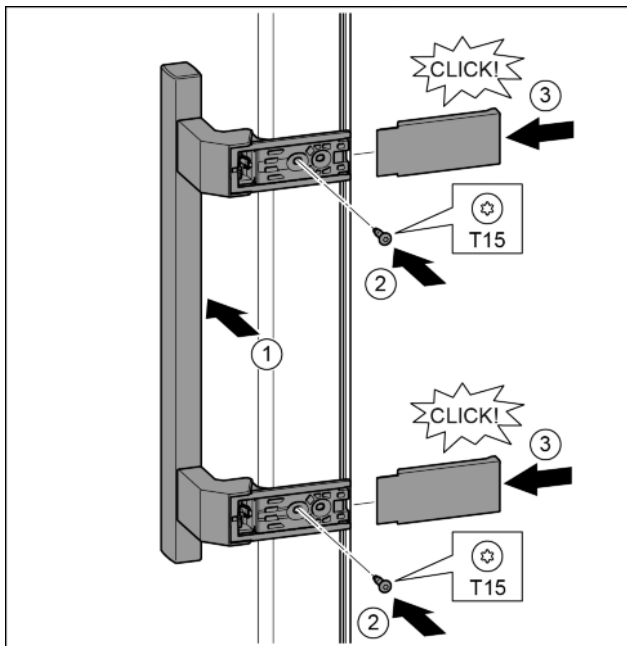

Fig. 33
- Position the handle on the other side. Fig. 33 (1)
- Tighten the screws with the T15 screwdriver. Fig. 33 (2)
- Position the covers on the side and push in. Fig. 33 (3)